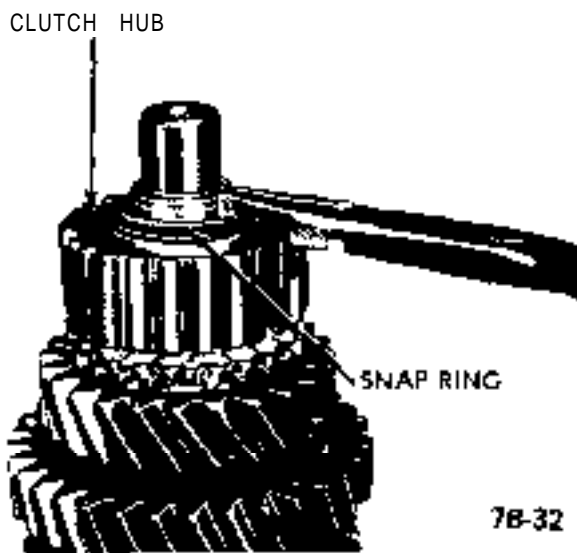

Figure 7B-32 Removing Snap Ring In Front of Clutch Hub
4. Using Tru-arc pliers, remove snap ring behind speedometer drive gear. See Figure 7B-33. Remove speedo drive gear spring washer and speedo drive gear spring worm gear.